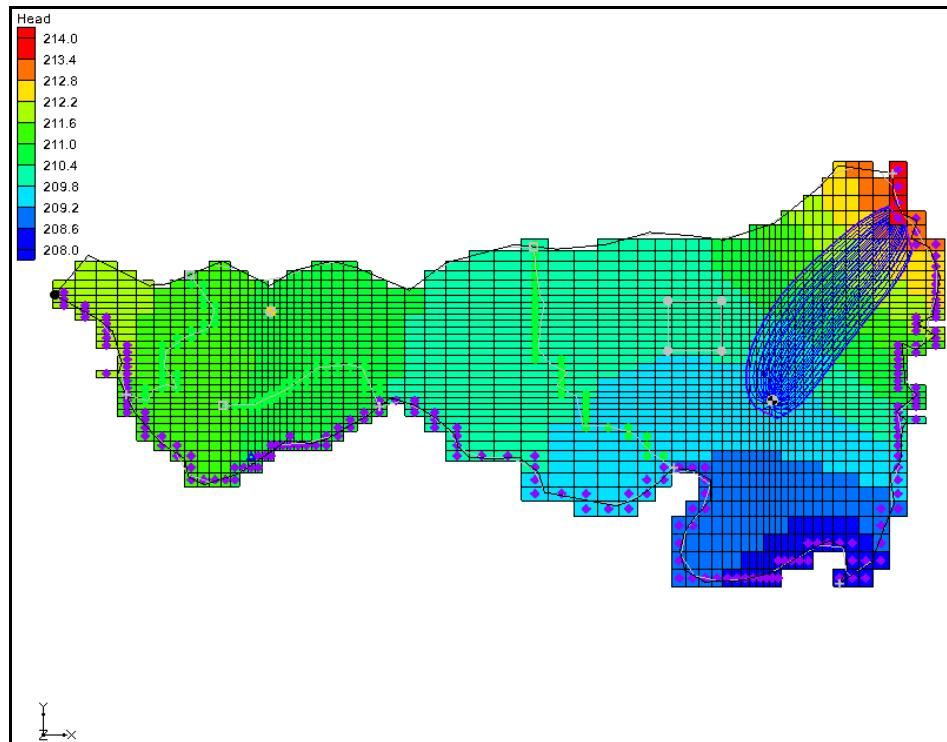

Figure 2 After west well pathlines and particles are deleted
3. **Frame**  the project. The Graphics Window will appear as in Figure 2.